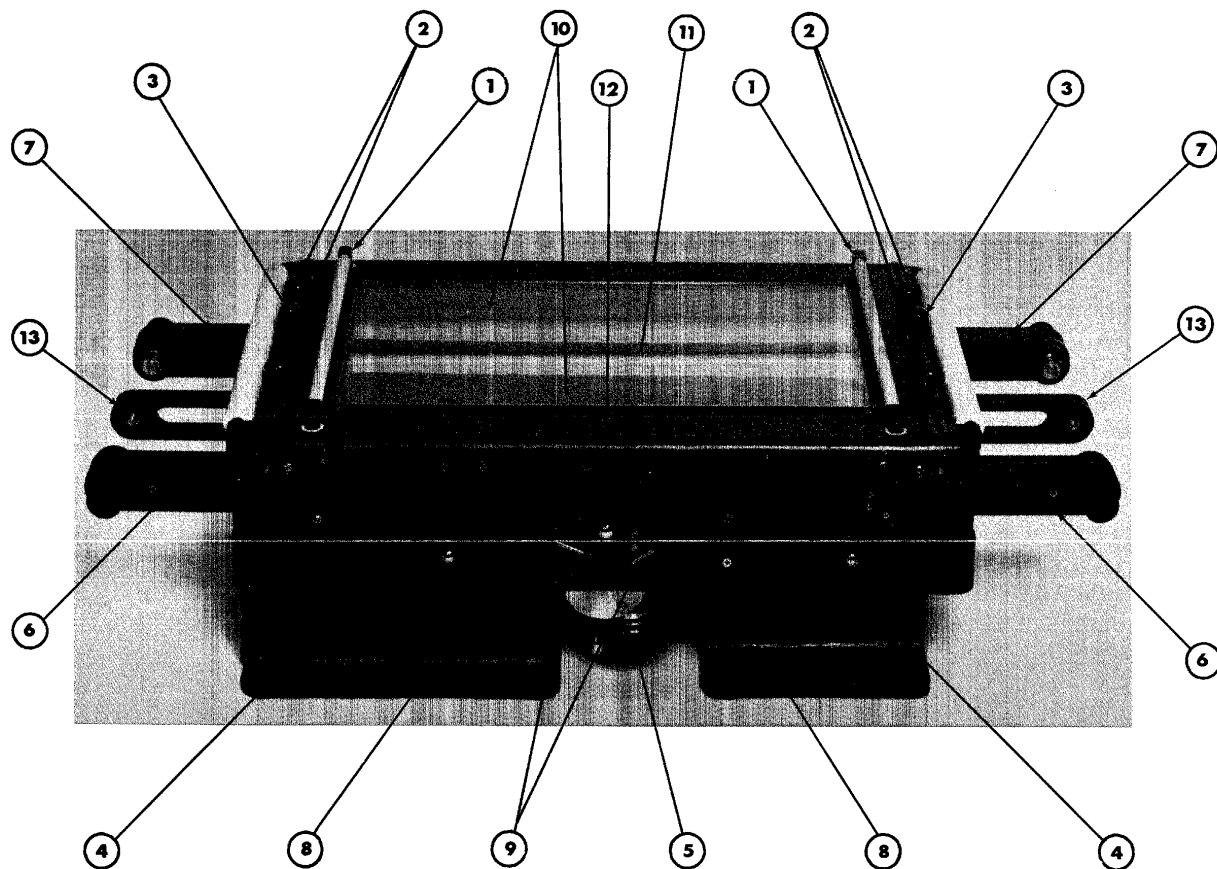

FIG. 2 TILT TABLE
1. Turn the Bottom Film Transport handle counterclockwise (#8, right hand, Figure 2) until it hits the inner stop. Lock the brake (#9, Figure 2).
2. Turn the Top Film Transport handle clockwise (#8 left hand, Figure 2) until it hits the inner stop. Lock the brake (#9, Figure 2).
3. Position the Center Shade (#3, Figure 2) in the center of the viewing area.
4. Install the Center Film Arms (#13, Figure 2).
1. Turn the Bottom Film Transport handle clockwise (#8 right hand, Figure 2) until it hits the outer stop. Lock the brake (#9, Figure 2).
2. Turn the Top Film Transport handle counterclockwise (#8 left hand,, Figure 2) until the inner edge of the film arm lines up with the 5" film marker on the Light Table. Lock the brake (#9, Figure 2).
2. Turn the Top Film Transport handle counterclockwise (#8 left hand, Figure 2) until the inner edge of the film arm lines up with the 9.5" film marker on the Light Table. Lock the brake (#9, Figure 2).
3. Position the Center Shade (#3, Figure 2) to the extreme upper edge of viewing area.
4. Remove center film arms (#13, Figure 2) if installed.
The Light Table is equipped with shades. The function of the shades is to mask out the area of the light source not being used. When film is viewed which does not cover the entire viewing surface, the shades (#10, Figure 2) may be drawn by pulling up on the knobs (#2, Figure 2) and sliding the shades to the desired position.
When two rolls of film are viewed, the center strip between the two rolls of film may be shaded by using the center shade (#11, Figure 2). This can be done by unscrewing the knobs (#3, Figure 2) and sliding the shade to the desired position and securing the knobs.
Also the Light Table can be tilted about its front edge from horizontal to a position of 45° by turning the hand crank (#5, Figure 2).
The film drive mechanism is hand operated by means of either of two cranks (#4, Figure 2) on the front side, or by a single crank on the back of the Light Table.
Although the film drive mechanism is hand operated, the clutch-brake units operate only when power is applied to the desired unit. A clockwise rotation of one of the front hand wheels (#4, Figure 2) will transport film from left to right when operating with the "DIRECTION" switch in the  same mode. When the "DIRECTION" switch is changed  the direction of the top roll of the film changes as indicated by the direction markers on the switch. The whole film transporting can be reversed by reversing the direction of rotation of the hand crank to counterclockwise.
A two-speed mechanical gear shift (#12, Figure 2) is provided to switch the film transporting mechanism from low speed to high speed. When the gear shift knob (#12, Figure 2) is retracted, all the way out, the film transporting system is in high speed.